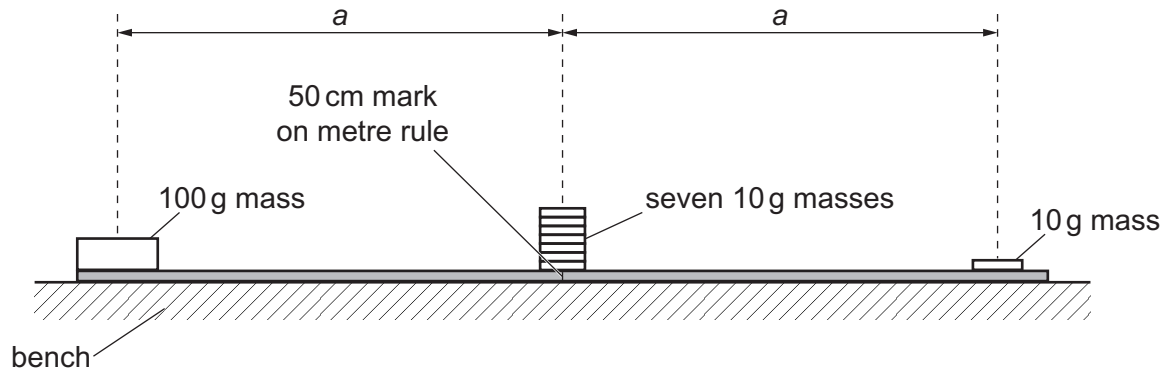

Fig. 1.1
- (a) • Place the masses on the rule as shown in Fig. 1.1.